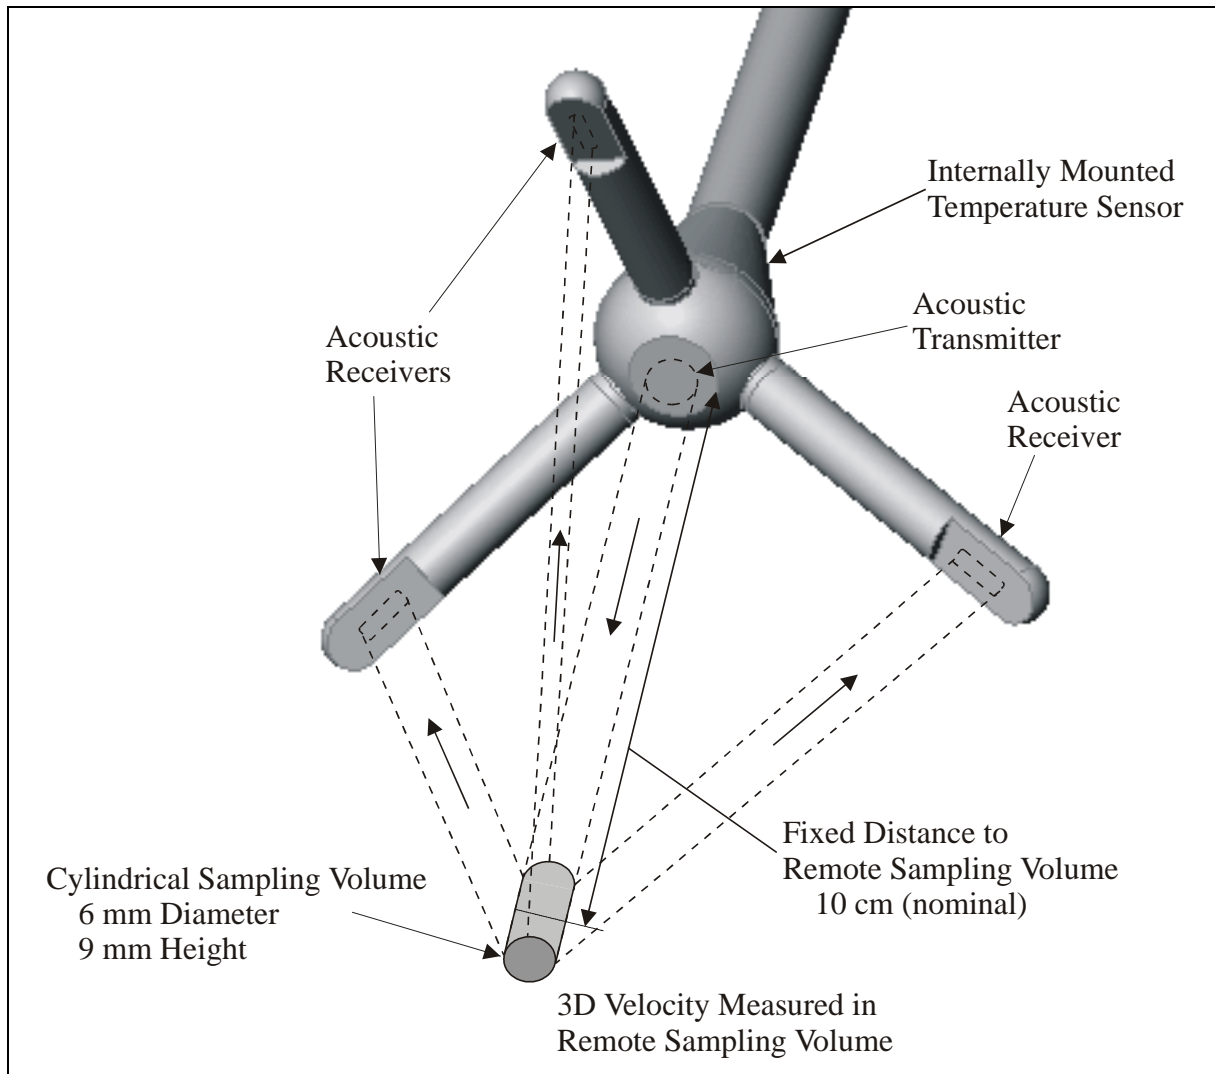

Figure 3 – Argonaut-ADV Probe and Sampling Volume
- **Probe** – The probe consists of one transmitter and two or three receivers (for 2D or 3D measurements). Probe components and functions are shown in Figure 3. See §6-4 and the *Argonaut-ADV Principles of Operation* for different probe configurations.
The following terms are commonly used with respect to the Argonaut-ADV probe (Figure 3).